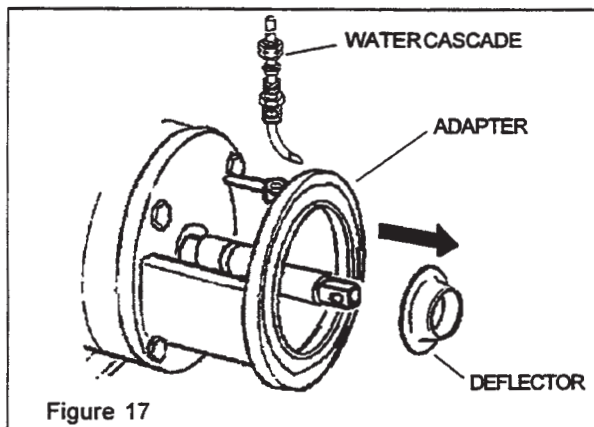

Figure 17
- Remove the water cascade attachment from the adapter, if included. Remove the rubber shaft deflector by pulling it straight off the stub shaft. Examine it for tearing, loose fit, or other defects that would allow liquid leakage into the motor along the shaft. (Figure 17)